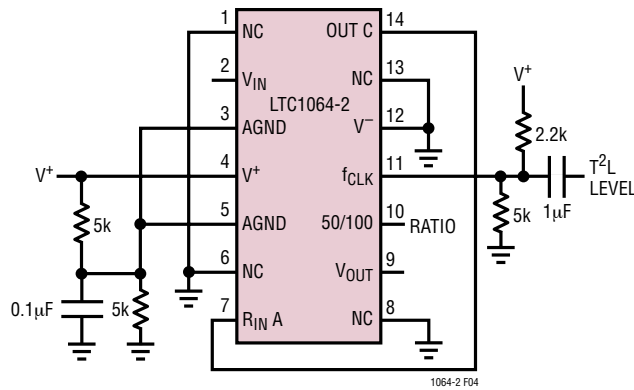

Figure 4. Level Shifting the Input T2L Clock for Single Supply Operation ≥ 6V.
**fCLK (Pin 11):** For ±5V supplies the logic threshold level is 1.4V. For ±8V and 0V to 5V supplies the logic threshold levels are 2.2V and 3V respectively. The logic threshold levels vary ±100mV over the full military temperature range. The recommended duty cycle of the input clock is 50% although for clock frequencies below 500kHz the clock “on” time can be as low as 200ns. The maximum clock frequency for ±5V supplies is 4MHz. For ±7V supplies and above, the maximum clock frequency is 7MHz. Do not allow the clock levels to exceed the power supplies. For single supply operation ≥6V use level shifting at Pin 11 with T2L levels (Figure 4).